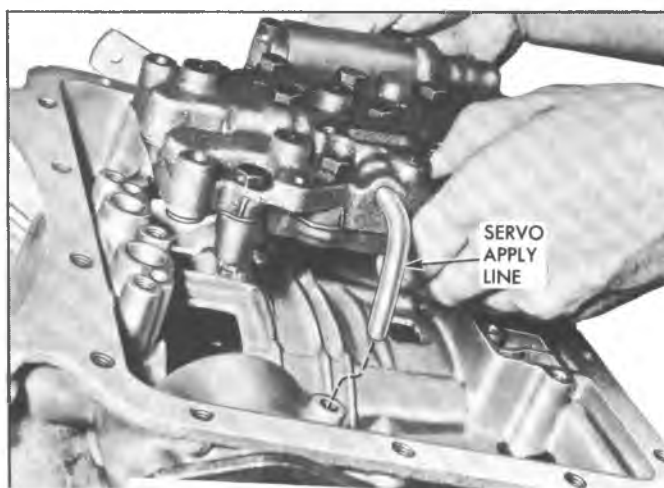

Fig. 33PG--Installing Valve Body
- 29 With transmission upside down, and manual linkage installed as previously described, and the selector lever detent roller installed, install the valve body (servo apply tube installed) and a new gasket. Carefully guide the servo apply line into its boss in the case as the valve body is set into place (fig. 33PG). Install six mounting bolts and range selector detent roller spring shown in Figure 11PG.